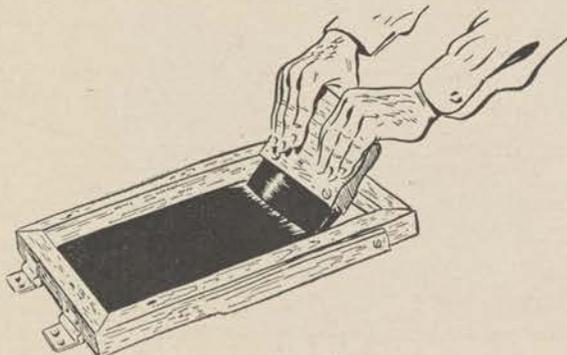

Figure 187.
b. Now that the screen is completely blocked off except for the area to be printed, place a piece of paper beneath the screen, pour in a quantity of paint, and wipe it from one end of the frame to the other with the rubber squeegee (fig. 187). A variety of paints are made specifically for silk screen use and may be obtained at art supply stores. They come in a heavy paste-like consistency and for best results